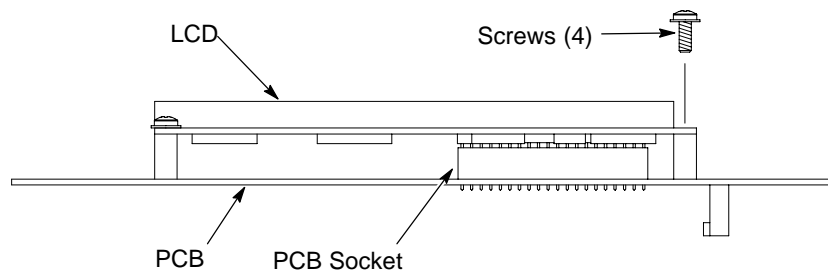

Figure 3 Disconnecting LCD from PCB
5. See Figure 3. Remove the 4 screws holding the LCD display to the circuit board.